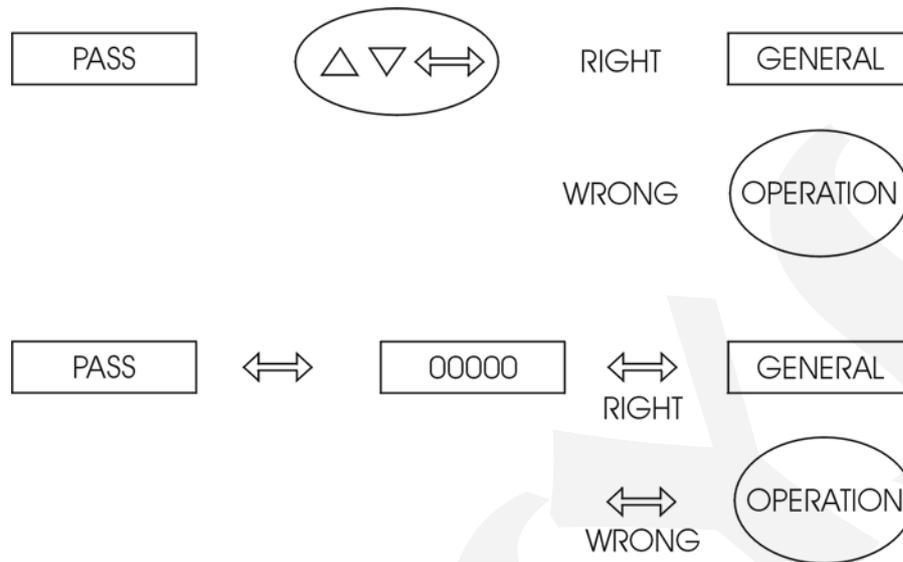

Fig. 8 - Password via key sequence or value
- ii) To display the PASS warning, indicating that the instrument is provided with a password system (a key sequence or a value), according to Figure 8.
For a value password, the user must press the ENTER key for a second time in order to view the number 0000 in DMY-2031-FCS display (00000 for DMY-2030-TOT-FCS) with the right end digit blinking. The position which is blinking indicates the digit in the four/five-digit number to be changed by the user with the UP and DOWN keys. Move to the digits on the left by pressing ENTER. After entering all digits, press ENTER again. If the password is correct, level 1 is accessed; otherwise, it returns to the normal operation (see Figure 8).